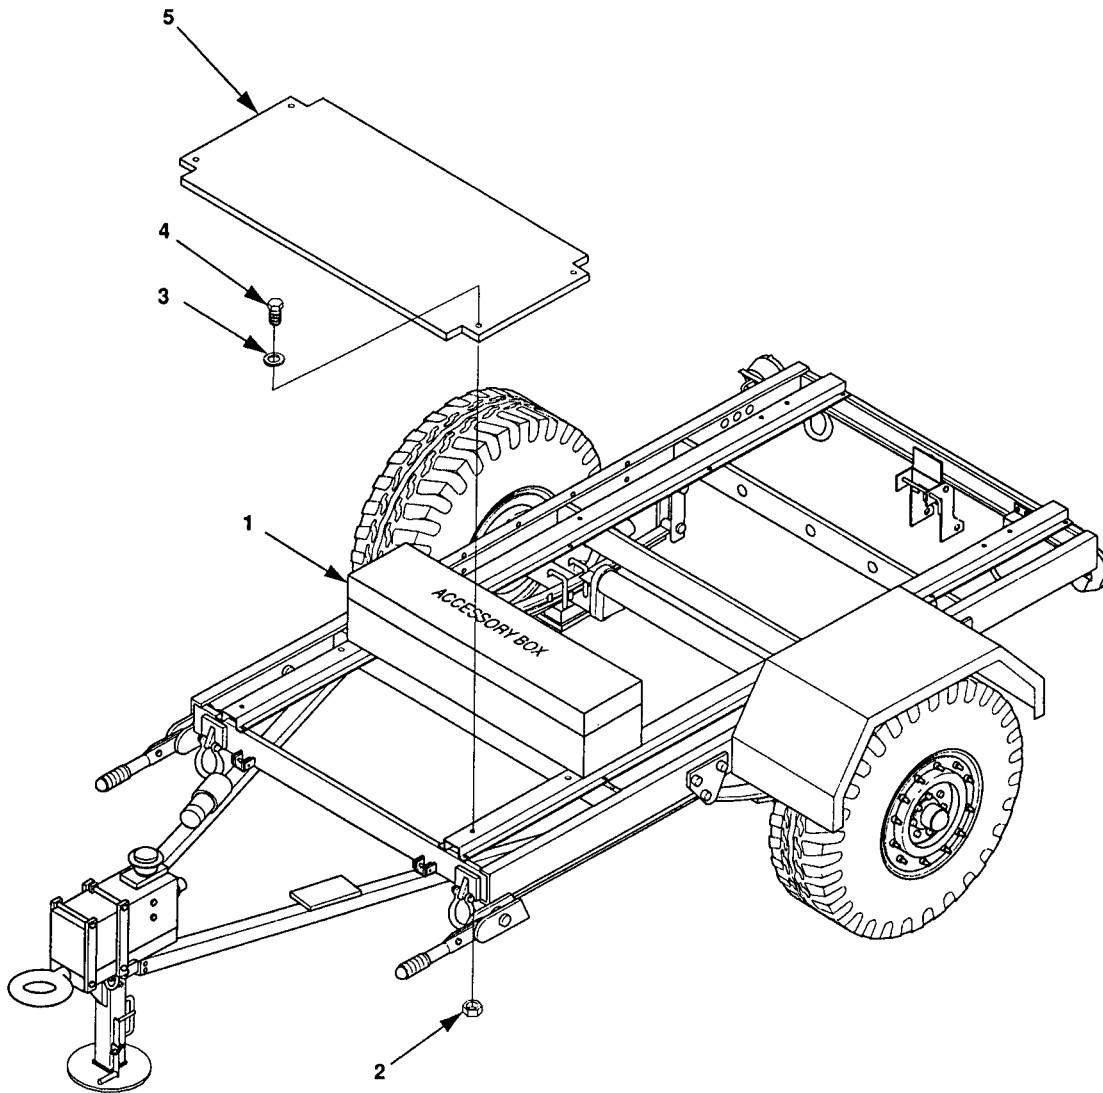

Figure 4-24. Front Platform Replacement, 1 Ton Trailer.
1. Refer to paragraph 4-19 and remove accessory box (1, Figure 4-24).
2. Remove four self-locking nuts (2), flat washers (3), screws (4), and front platform (5).